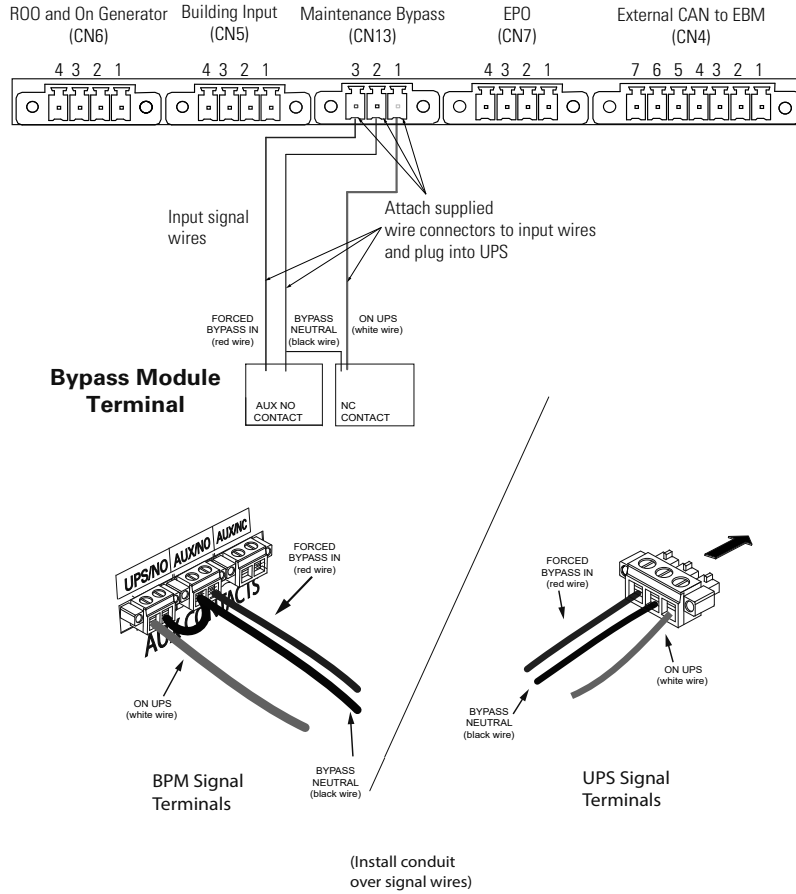

Figure 19. UPS Input Control Signal Wiring for Maintenance Bypass
1. Route the maintenance bypass signal wires in a conduit from the bypass module to the communication signal terminal (CN13) on the rear of the UPS (see Figure 19). For conduit requirements consult your local electrical code.